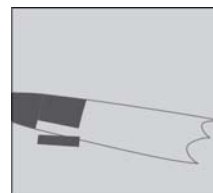

Figure 9:
7. Apply the PreMark[®] material with exposed bead side up immediately after the sealer has been applied, following handling procedure described in Step 2 above. Position material so that edges of adjacent sheets fit snugly together and that the pattern of the marking aligns properly from sheet to sheet. *See Figure 9.* There should be no gaps between the adjoining segments. You may overlap the edges slightly. Check to ensure that proper layout and alignment is obtained before heating the material. Heating should begin immediately after proper layout has been confirmed.